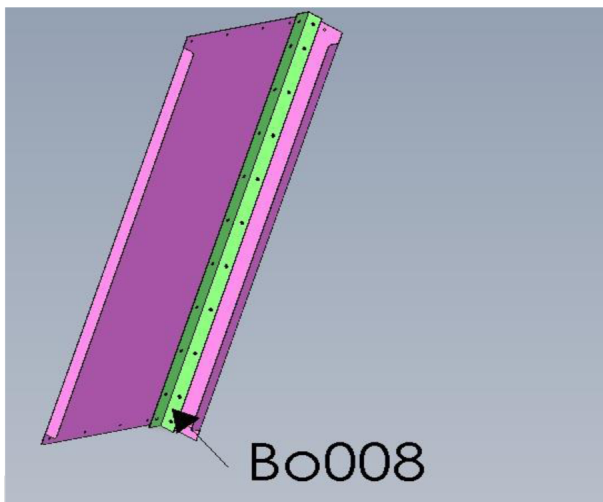

Figure 11
11) Bolt panels BO-1240 and BO-013 to bracket BO-008 for both sides of the oven using 5/16" bolts. **DO NOT** tighten bolts yet for adjustments of other panels. **See figures 11 & 12.**